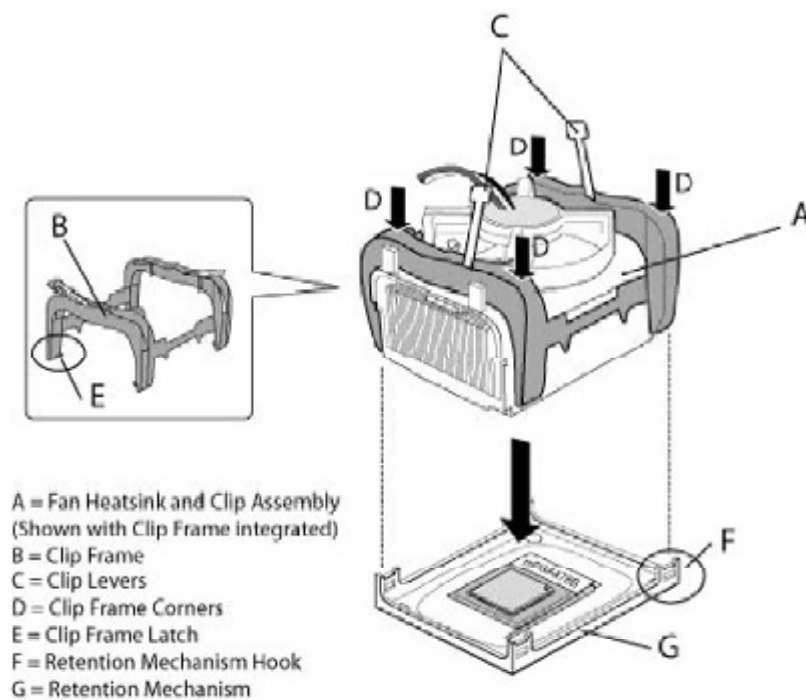
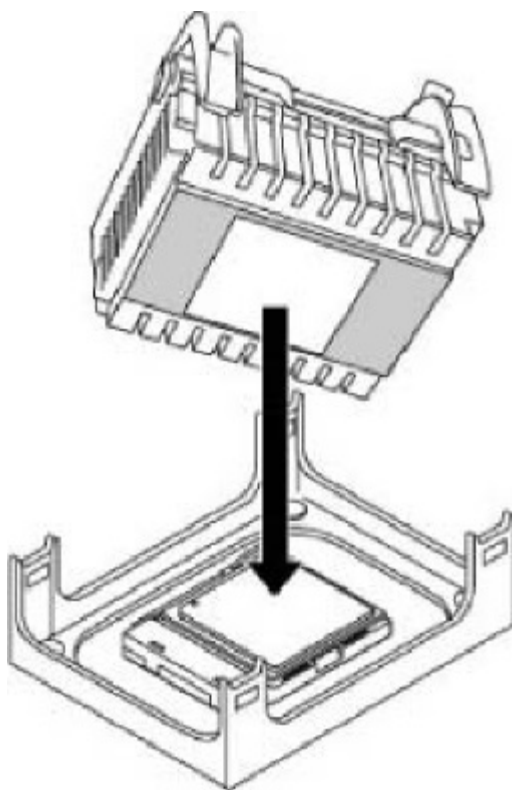
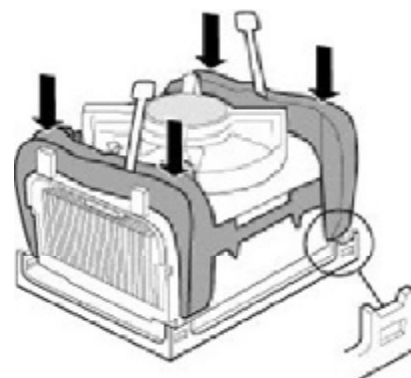

Figure 3-7: Installing the Fan Heatsink (1)
Figure 3-8: Installing the Fan Heatsink (2)
Figure 3-9: Installing the Fan Heatsink (3)
1. The heatsink has thermal interface material attached to the bottom, shown in Figure 3-8. Be careful not to damage the thermal interface material.
2. Align the fan heatsink and clip assembly (A in Figure 3-7) with the retention mechanism (the fan heatsink is symmetrical) and place it on the processor (as shown in Figure 3-8). Allow the heatsink base to compress (without rotating or twisting) the thermal interface material over the surface of the processor's integrated heat spreader.
3. With the clip levers (C in Figure 3-7) in the upward position, push down on all four clip frame corners (D in Figure 3-7) to secure the clip frame latches (E in Figure 3-7) to the retention mechanism hooks (F in Figure 3-7), as shown in Figure 3-9.
Note: Make sure the processor fan cable is free from any obstruction and is not trapped under clip frame (B in Figure 3-7).